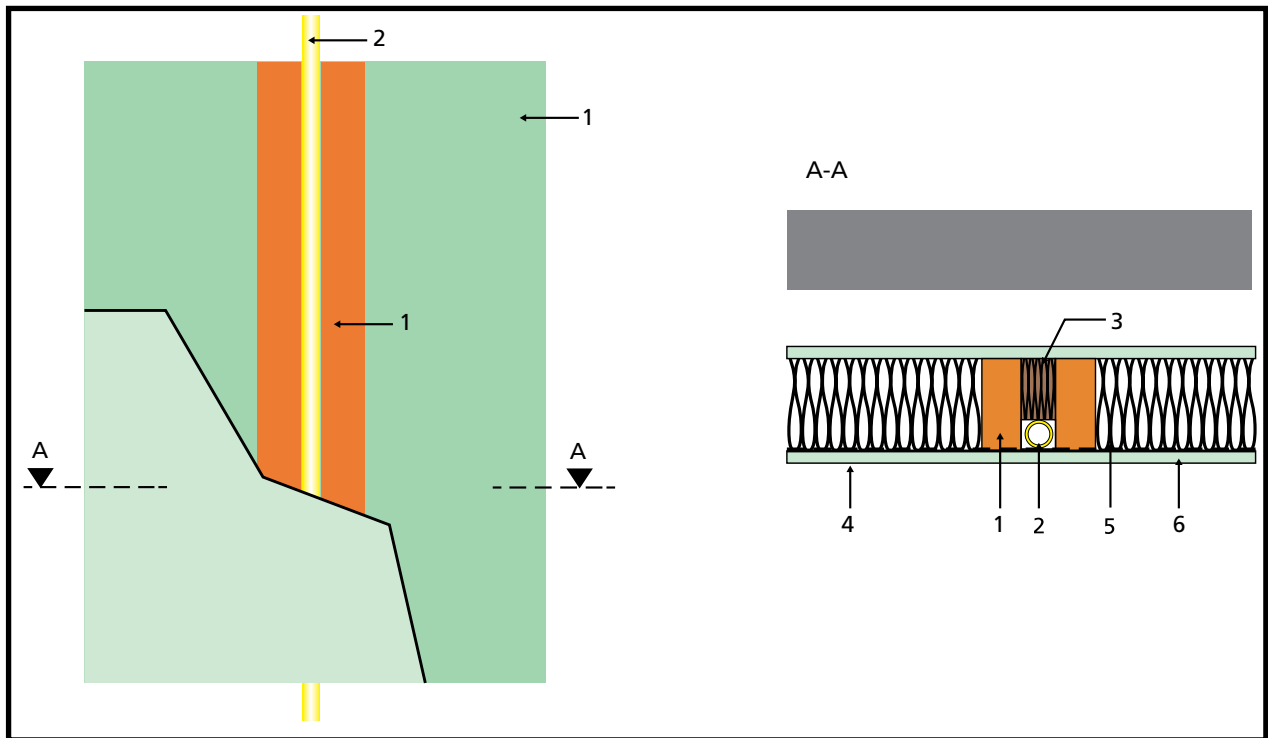

Figure 16: Timber frame construction
- timber frame construction (see Figure 16)